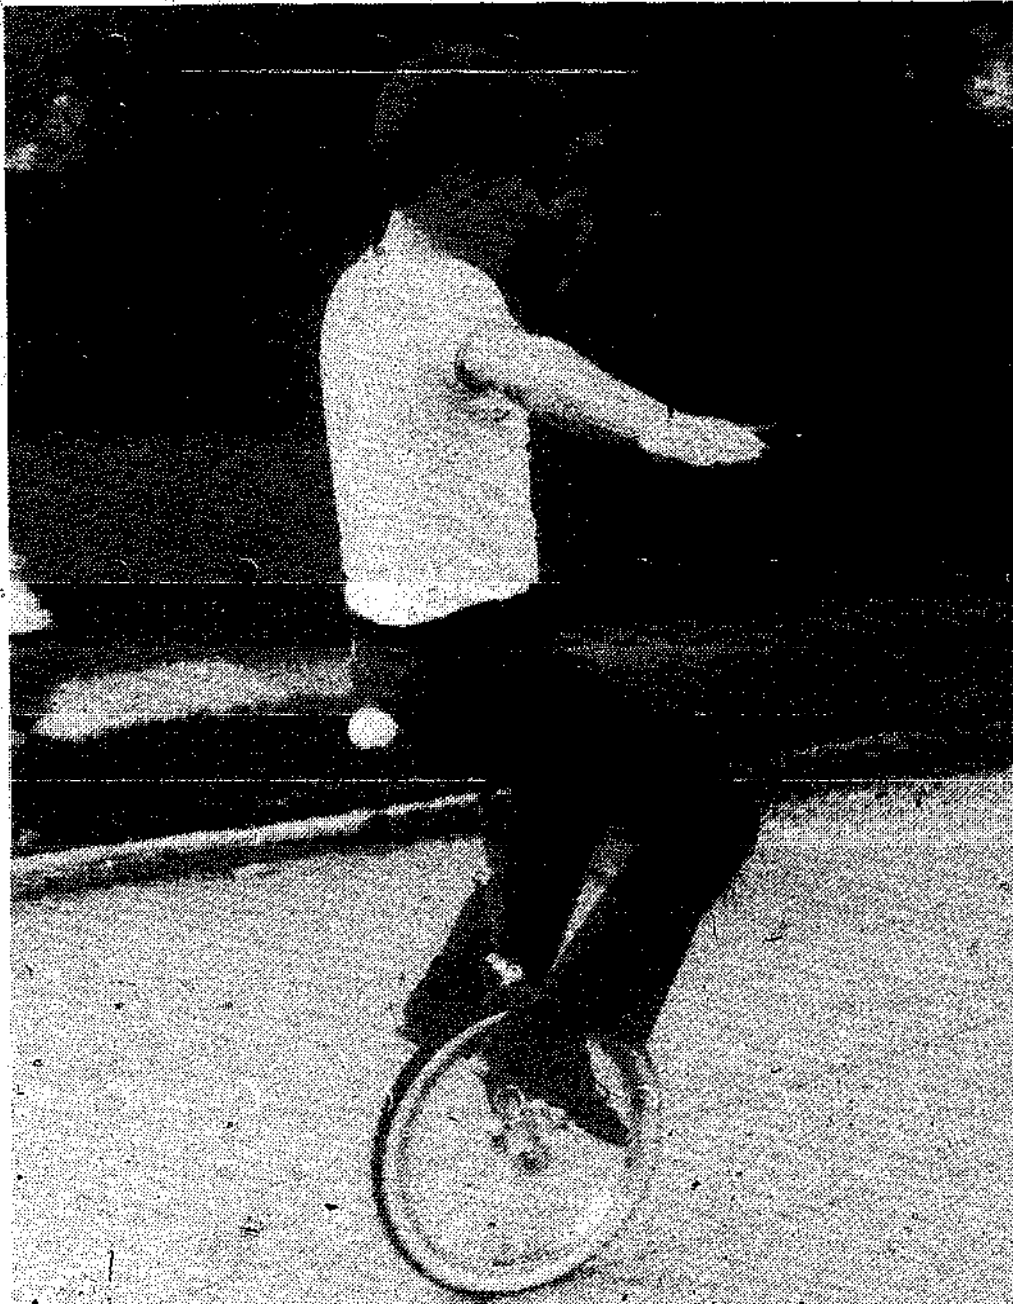

Fig. 15-21. The difficult part is getting pedals over the top of the pedal cycles.
**Kangaroo Unicycle.** The crank arms are set adjacent to each other as shown in Fig. 15-19. A standard unicycle can be converted by removing one crank arm, filing a cotterpin notch opposite the original one on the axle and then reinstalling the crank arm in the new position. John Jenack is shown riding a kangaroo unicycle in Fig. 15-20 and Fig. 15-21. The difficult part is getting the pedals over the top part or hump of the pedal cycles.